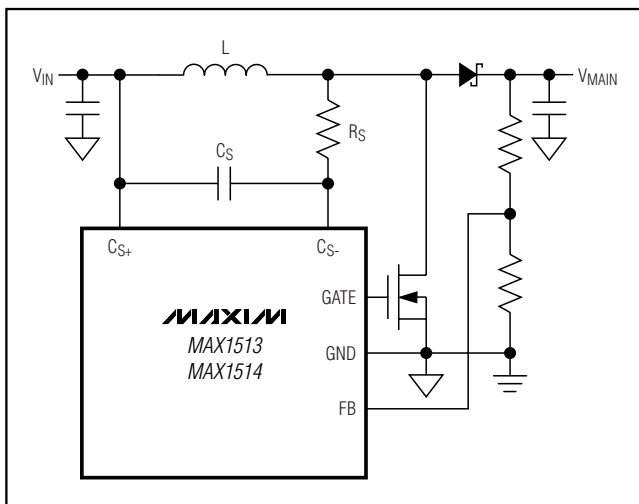
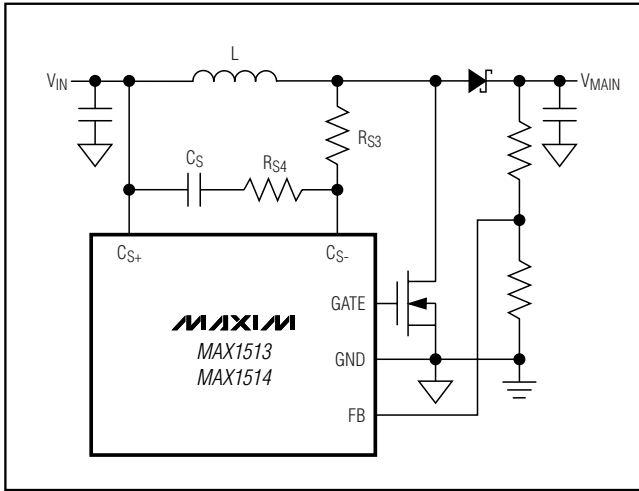

Figure 8. Lossless Current Sensing with 80mV <  $V_{SENSE}$  < 100mV
Figure 10. Lossless Current Sensing with  $V_{SENSE} < 80\text{mV}$
4) Compare the calculated sense voltage with the minimum value of the current-limit threshold in the *Electrical Characteristics* (100mV). If the sense voltage is between 80mV and 100mV, use the current-sense configuration in Figure 8 with the calculated  $C_S$  and  $R_S$  above.
6) If  $V_{SENSE}$  is less than 80mV, the current-feedback signal is low relative to the current-limit threshold. Use the Figure 8 configuration, or, if good current-limit accuracy is desired, use the optional current-sense configuration in Figure 10 to increase the amplitude of the sense signal. Calculate  $R_{S3}$  and  $R_{S4}$ :
Because  $V_{SENSE}$  would be between 80mV and 100mV, the circuit in Figure 8 should be used. The closest 1% standard value for  $R_S$  is 909 $\Omega$ .
Because  $V_{SENSE}$  would be much less than 80mV, the circuit in Figure 10 can be used to improve the current-limit accuracy. Calculate  $R_{S3}$  and  $R_{S4}$ :